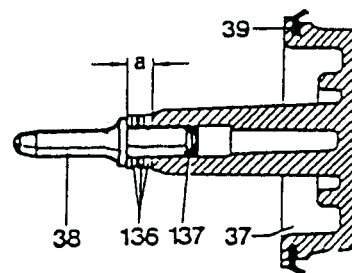

FIGURE 5
As of April 1986 production the above mentioned transmissions are equipped with a modified brake band piston B1 with removeable pressure pin (previously caulked). The pressure pin (38) is held in place in the piston by an O-ring 1.0 mm and 1.5mm thicknesses (Figure 5).